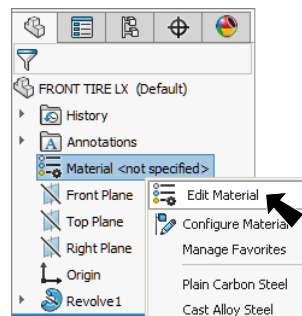

Fig. 13
Step 4. Click **Zoom to Fit**  (F) on the View toolbar.
Step 1. **Right click Material**  in the Feature Manager and click **Edit Material**, **Fig. 13**.